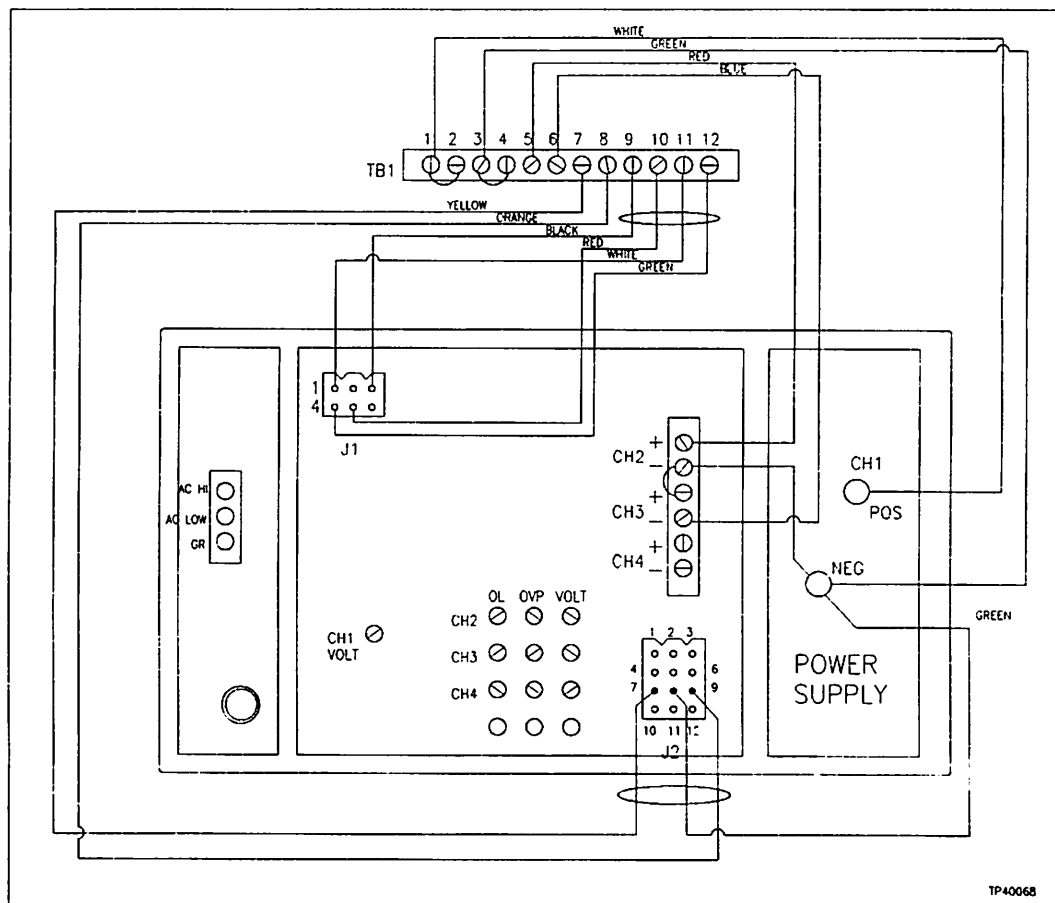

Figure 5-2. Wiring Schematic for Main Power Supply
8. Verify the DC voltages at the power supply (Figure 5-2). DO NOT attempt to adjust the OL and OVP settings. These are factory set.
Adjust the voltages to within a tolerance of approximately  $\pm 0.25$  V of the following values, if necessary. A final adjustment will be made later with the power supply under load. Refer to Figure 5-2.